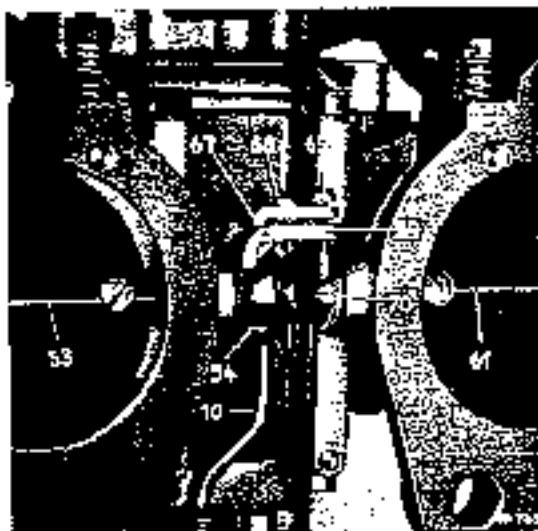

Fig. 07-0/34
When the accelerator pedal is released, the so-called automatic return mechanism of stage 2 causes the throttle valve of stage 2 to be closed by the throttle valve shaft of stage 1. The automatic return mechanism consists of the relay lever (59) on the throttle valve shaft (53) of stage 1, the set screw (69), the clamping strap (67) of the clamping screw (68) and the abutment screw (70) screwed into the throttle valve shaft (51) of stage 2 (Fig. 07-0/34)